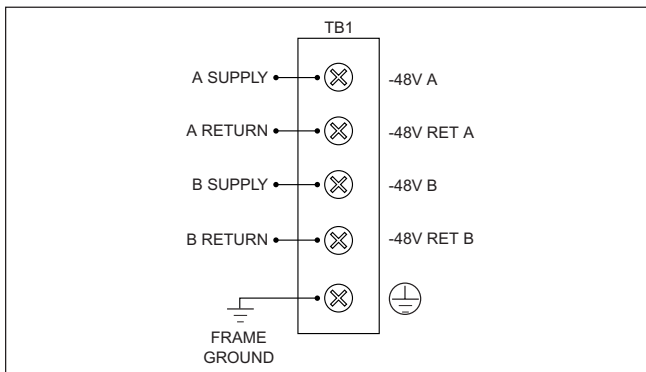

Figure 4. Local DC Power Connection
Fully populated, the NIU3 shelf operates on local -48 VDC @ 1.5 amps maximum. The shelf backplane has spade lug terminal connections (TB1) for both an “A-side” and “B-side” independent DC source, plus Frame Ground (see Figure 4). A diode arrangement adds reliability by allowing both DC supplies to load-share with one side picking up the entire load should the other side fail. See requirements in *Compliance* subsection.
- Connect the -48 VDC supply and return wires to the A-side terminals per Figure 4.
- If redundant power is intended, connect an independent power source to the B-side terminals per Figure 4.